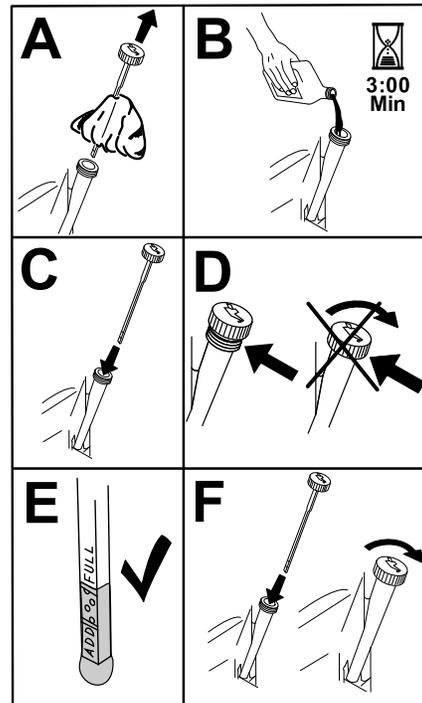

Figure 41
5. Slowly pour approximately 80% of the specified oil into the filler tube and slowly add the additional oil to bring it to the **Full** mark (Figure 41).